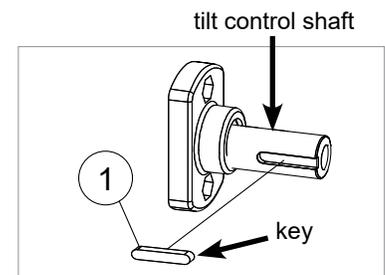
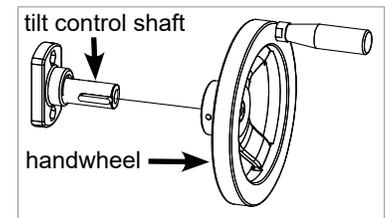
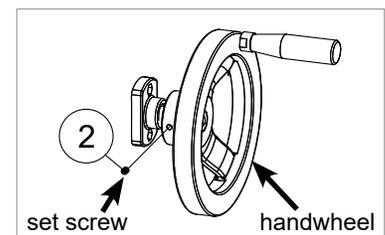
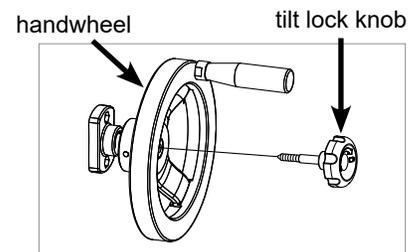

Fig. 14
Fig. 15
Fig. 16
Fig. 17
3. Open the other handwheel package and screw the handle into the handwheel (see Fig. 13). Tighten the handle with a 14 mm wrench. The hardware required to install the tilt handwheel is located in the area with the blue background on the Table Saw Hardware Pack. Remove a key from the Table Saw Hardware Pack and insert it into the slot at the end of the tilt control shaft (see Fig. 14). Slide the handwheel onto the end of the tilt control shaft (see Fig. 15) until the face of the handwheel is flush with the end of the tilt control shaft. Remove a set screw from the Table Saw Hardware Pack and insert it into the small hole located on the side of the handwheel (see Fig. 16). Use a 3 mm hex key to fully tighten the set screw. Locate the lock knob with the shorter shaft. Screw the lock knob into the end of the tilt control shaft (see Fig. 17), but don't tighten it completely. The lock knob is used to prevent the handwheel from turning after the blade has been set to a new tilt angle.